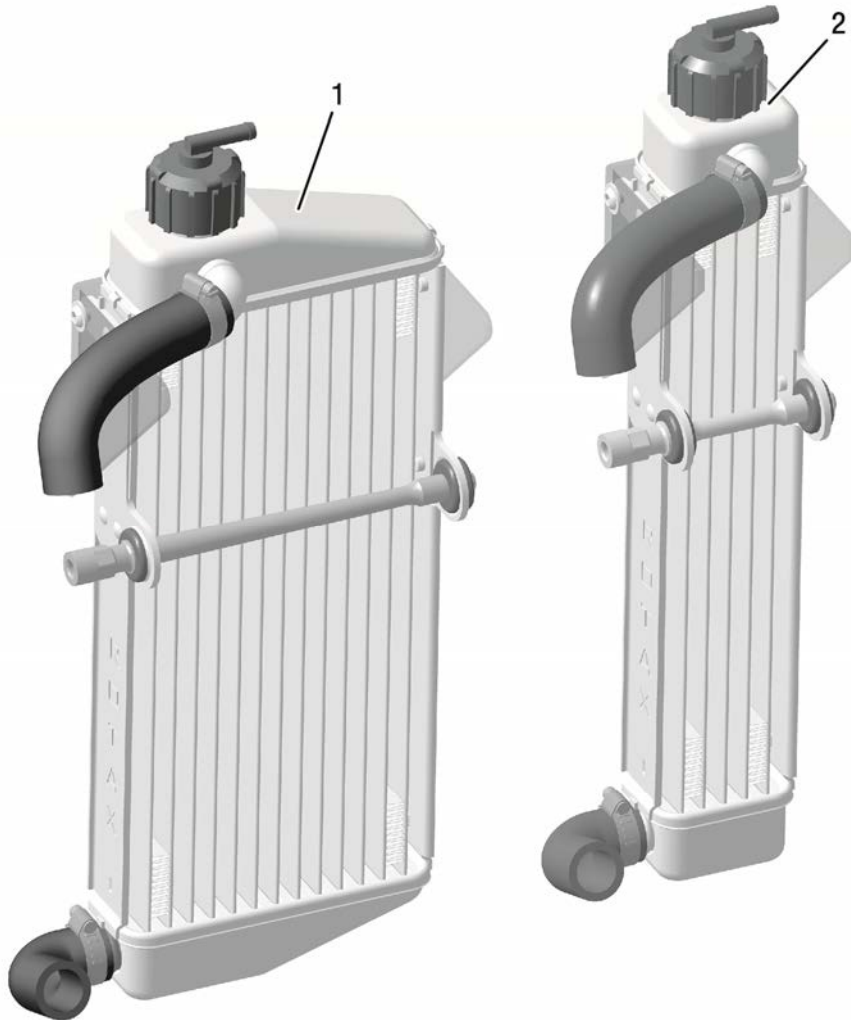

Fig. 8 (K00428)
- ➔ Pre-mount radiator with coolant hoses and radiator support as shown in *Fig. 8*.